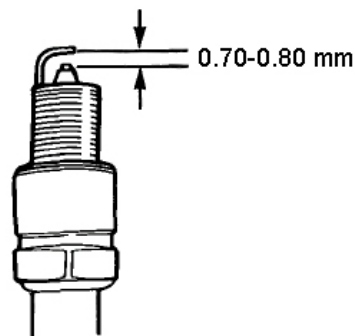

Figure 8
- (6) Check whether the spark plug washer is in a good condition
- (7) Reinstall the spark plug and use the spark plug socket wrench to tighten it and tightly press the spark plug washer; then reinstall the spark plug cap (see Figure 8).